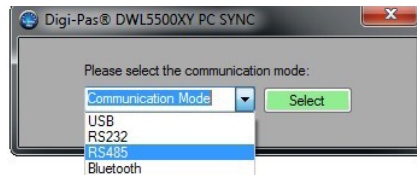

Figure 23. Shortcut of the DWL5x00XY PC SYNC
1. Assuming steps stated in 3.1 Configuration of Single Tilt Sensor Module with Converter and 4.1 Installation of the DWL5x00XY PC Sync Software have been done in this stage. Open PC SYNC software and select RS485 from the drop down menu as shown in Figure 23.